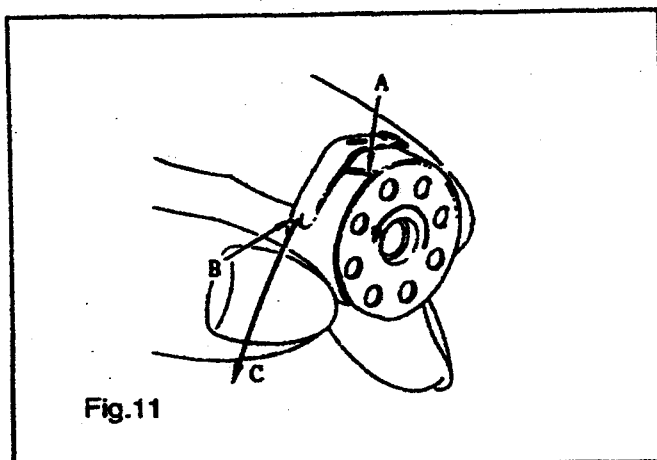

Fig.11
5. SETTING THE BOBBIN INTO THE BOBBIN CASE (Fig.11)